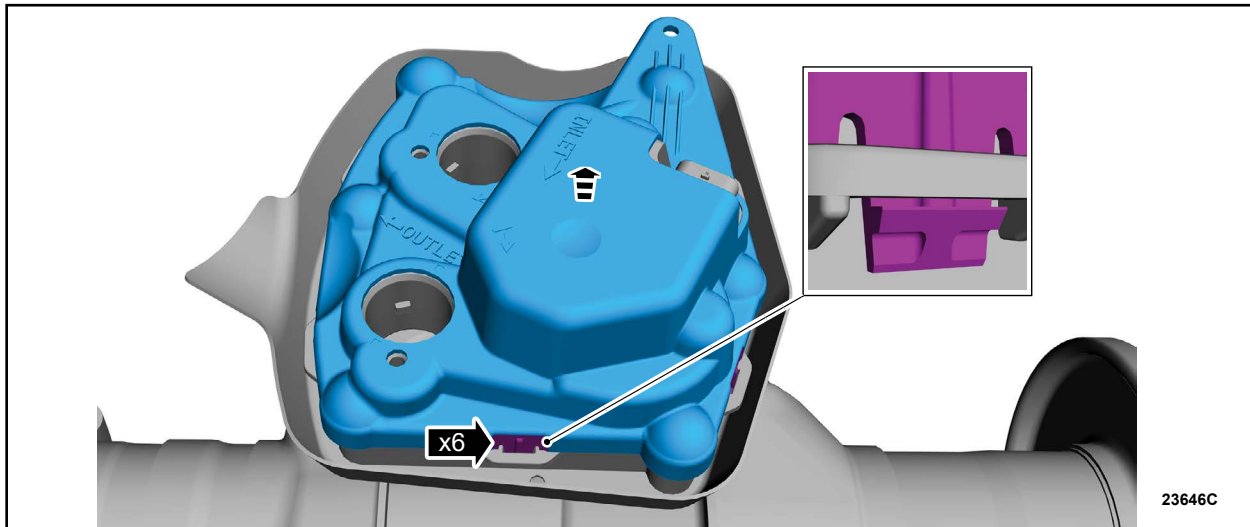

FIGURE 3
3. Release the tabs and remove the actuator cover. See Figure 3.